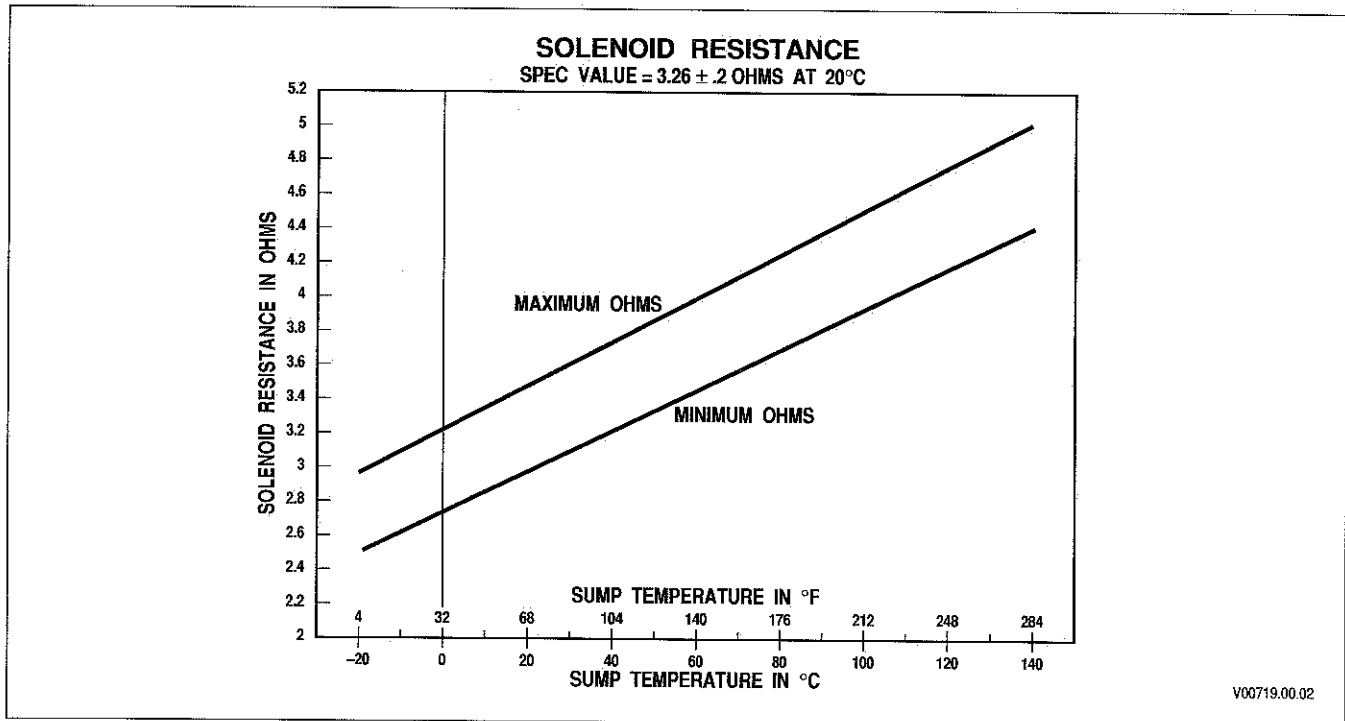

Figure 5-15. Solenoid Resistance vs. Temperature
6. Check the resistance of retarder solenoid 82. Resistance must be within the range shown on Figure 5-15.